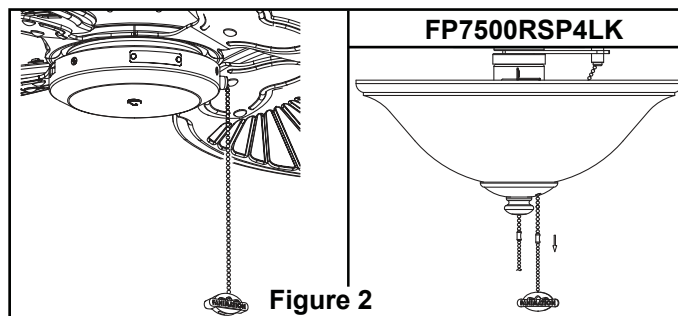

Figure 2
1. Using the  $\frac{3}{8}$ " x 2" lag bolt and flat washer, attach safety cable to ceiling joist or wood structural member. The lag bolt will pass through the flat washer, safety cable loop, and into the building structure (Figure 2). You will first drill a  $\frac{1}{4}$ " pilot hole into the building structure to prevent splitting or cracking.
**NOTE:** Ceiling support cable cannot be secured to junction box only, it must be directly secured to ceiling joist or structural member using the  $\frac{3}{8}$ " x 2" lag bolt and flat washer. (Figure 2)
4. Tighten screws with a screwdriver provided, don't over-tighten. (Figure 2)
2. Secure glass bowl to light fitter using supplied nut. Next, install trim cover followed by the finial. Do not over tighten. (Figure 2)
2. Check the operation of the fan by gently pulling on the pull chain switch. (Figure 2)